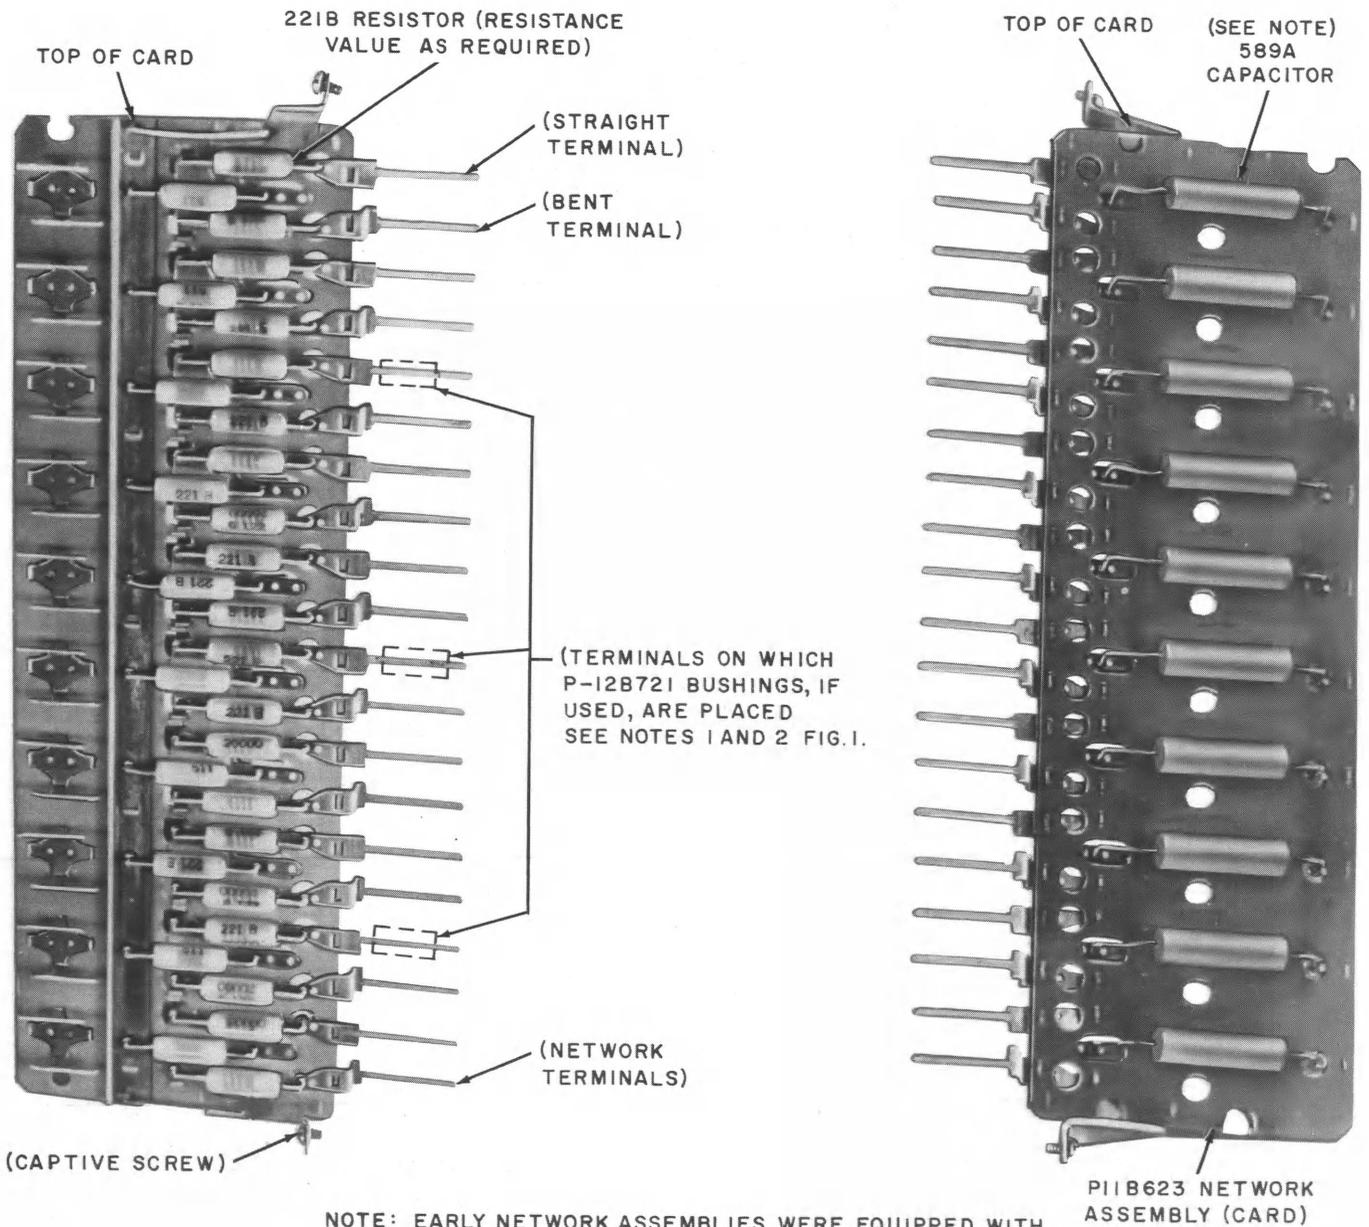

Fig. 4—P11B623 Network Assembly
- (1) P-11B623 network assembly for the earlier vintage number network frames. See Fig. 4.
#### **Capacitor and Resistor for P11B623 Network Assemblies (Fig. 4)**